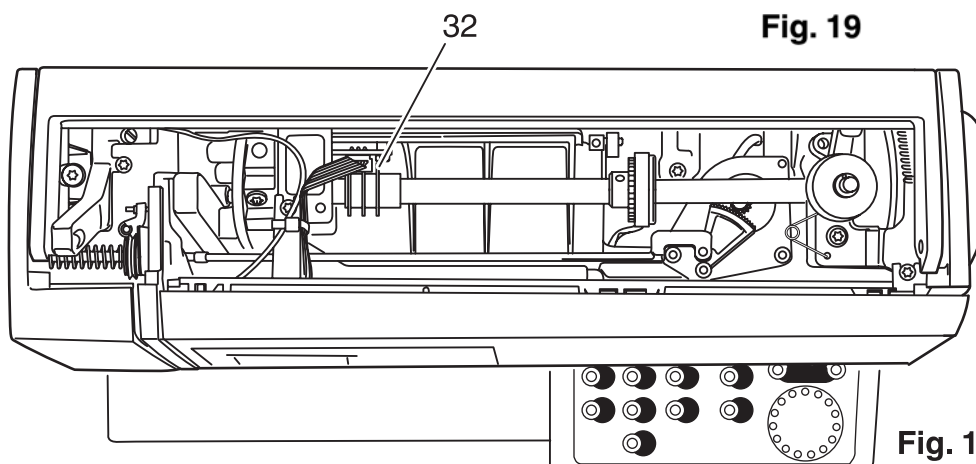

Fig. 18
- Slightly loosen the fastening screw on control cam 32 (fig. 18).